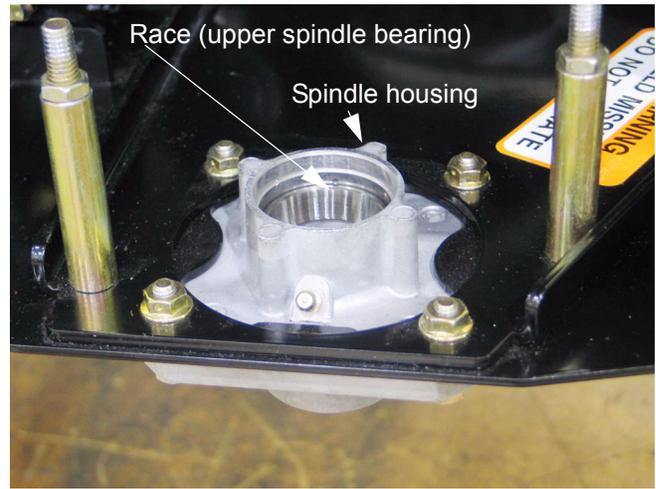

Figure 5.10
5.10. If the tapered roller bearings need to be replaced, the races need to be driven-out and replaced as well. See Figure 5.10.